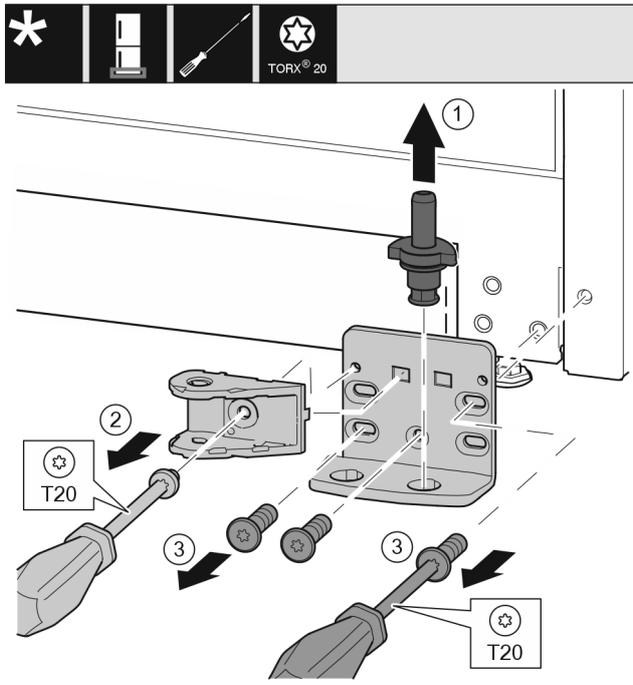

Fig. 37
- ▶ Pull the bearing bolt Fig. 37 (1) out upwards completely.
- ▶ Use screwdriver to unscrew the screw Fig. 37 (2) and remove the closing damper connection.
- ▶ Use screwdriver to unscrew the screws Fig. 37 (3) and remove the swap bearing block.